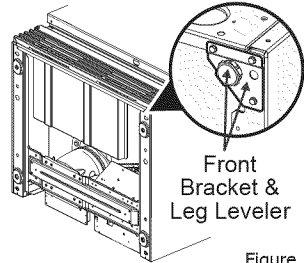
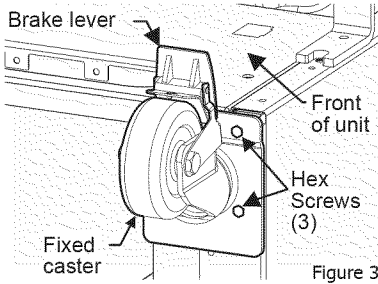

Figure 1
Figure 3
4. Remove and discard the two front brackets with leg leveler using a 5/16" socket wrench. See Figure 1.
Locate and align fixed caster (with brake lever facing front of unit - see Figure 3) over the same mounting holes from bracket in Figure 1 using 6 hex screws (3 for each caster). Secure the screws snug using a  $\frac{3}{8}$ " open end wrench. Repeat this procedure for opposite corner. DO NOT OVERTIGHTEN.